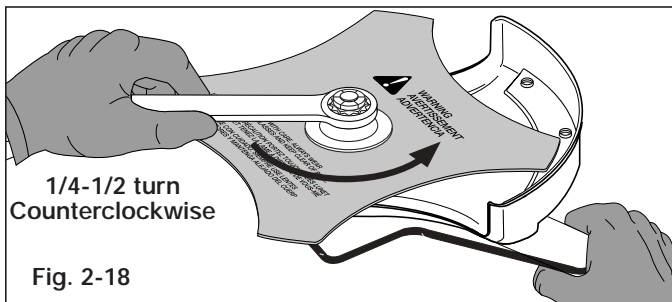

Fig. 2-18
- Without a torque wrench, use a 5/8 inch closed-end or socket wrench, turning the nut until the blade retainer is snug against the shaft bushing. Make sure that the blade is installed correctly, then rotate the nut an additional 1/4 to 1/2 turn counterclockwise (Fig. 2-18).